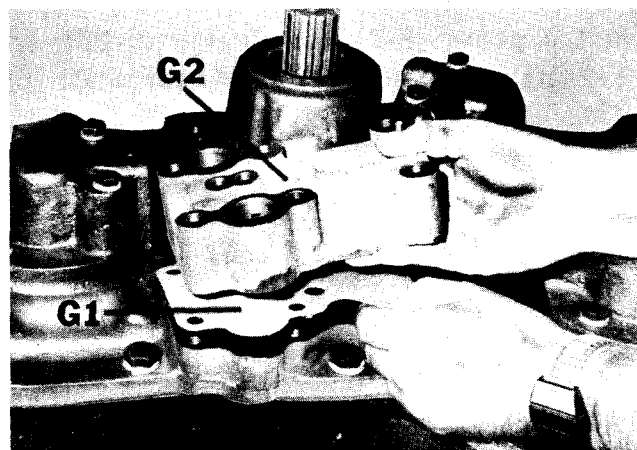

Figure 61
1. Install pressure regulator valve assembly (G-2) and gasket (G-1) using six lockwashers and six bolts (Figure 61).